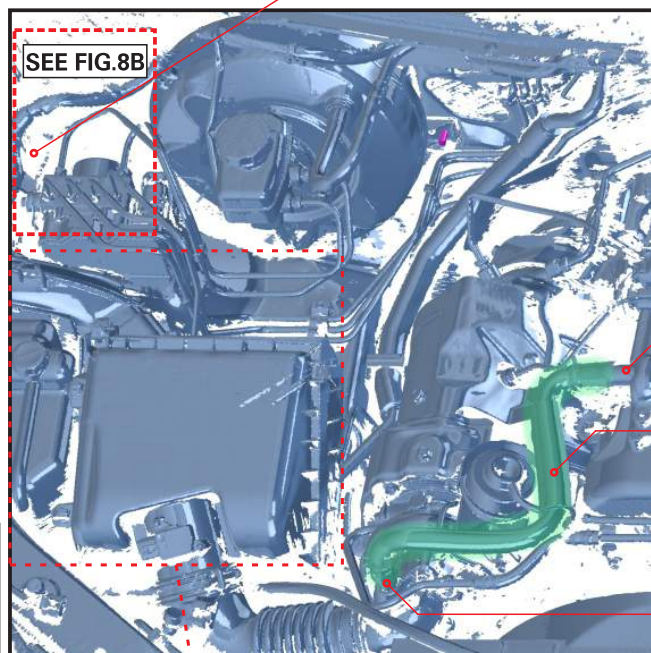

FIG. 8A OEM PCV HOSE REMOVAL
2. Remove OEM PCV hose highlighted green in FIG. 8A